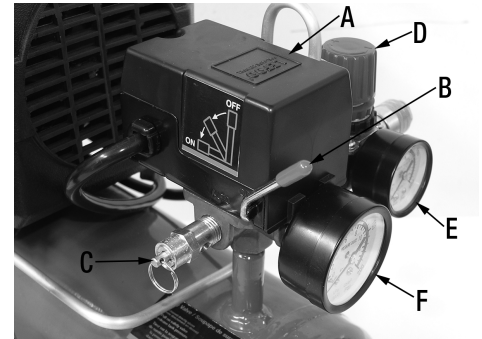

FIGURE 6
ON/AUTO-OFF SWITCH (B) FIG.6. Turn this switch ON to provide power to the automatic pressure switch and OFF to remove power at the end of each use.
PRESSURE SWITCH (A) FIG.6. The pressure switch automatically starts the motor when the tank pressure drops below the factory set “Cut-In” pressure. It also stops the motor when the air tank pressure reaches the factory set “Cut-Out” pressure.
REGULATOR (D) FIG.6. The air pressure coming from the air tanks is controlled by the regulator. Turn the regulator knob clockwise to increase pressure and counterclockwise to decrease pressure. To avoid minor readjustment after making a change in the pressure setting, always approach the desired pressure from a lower pressure. When reducing from a higher to a lower setting, first reduce the pressure less than that desired, then bring it up to the desired pressure. Depending on the air requirements of each particular accessory, the outlet regulated air pressure may have to be adjusted while operating the accessory.
OUTLET PRESSURE GAUGE (E) FIG.6. The outlet pressure gauge indicates the air pressure available at the outlet side of the regulator. The pressure is controlled by the regulator and is always less than or equal to the tank pressure.
TANK PRESSURE GAUGE (F) FIG. 6. The tank pressure gauge indicates the reserve air pressure in the tank.
SAFETY VALVE (C) FIG. 6. If the pressure switch does not shut off the air compressor at its cutout pressure setting, the safety valve will protect against high pressure by “popping out” at it’s factory set pressure (slightly higher than the pressure switch cut-out setting).
- 4) Open the pressure regulator (D) Fig.6 by turning it clockwise. Adjust the pressure regulator to the correct pressure setting (do not exceed the maximum rating of the tool being used). Observe outlet air pressure on outlet pressure gauge (E) Fig.6 as reference. The compressor is ready for use.
- 8) Pull ring on safety valve (C) Fig. 6, allowing air to bleed from the tank until tank pressure is approximately 20 PSI. Release safety valve ring.
NOTE: If drain valve is plugged, pull ring on safety valve (C) Fig.6, and hold until air pressure has been released. The valve can then be removed, cleaned, and reinstalled.
- 4) Pull ring on safety valve (C) Fig.6, allowing air to bleed from the tank, until tank pressure is approximately 20PSI. Release safety valve ring.
- 5) Drain water from air tank. Turn drain valve (A) Fig.9, counterclockwise, to open. NOTE: If drain valve is plugged, pull ring on safety valve (C) Fig. 6, and hold until air pressure has been released. The valve can then be removed, cleaned, and reinstalled.